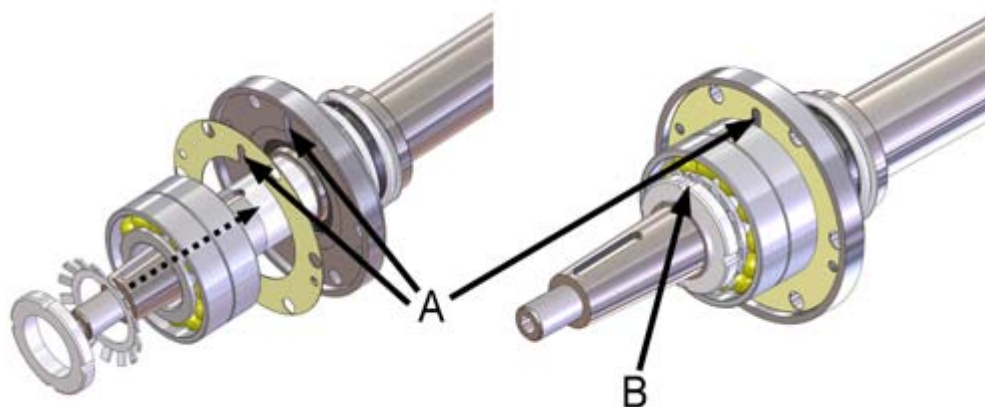
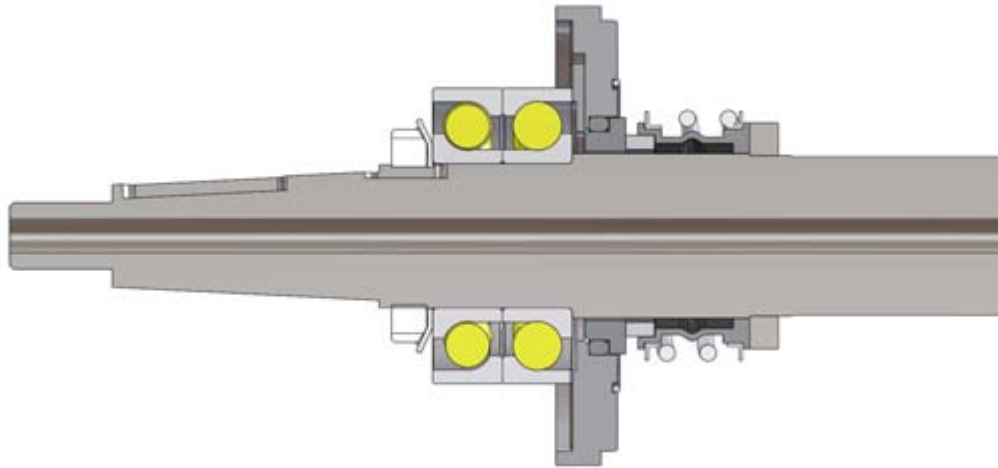

Figure 16. Pushing the bearings onto the shaft
Figure 17. Bearings (cross-section)
3. Place the paper seal against the bearing housing spacer. Make sure that the screw holes and oil duct are positioned correctly (figure 16, point A). Push the bearing pair into the shaft. Please note that the bearings must be installed in the correct way. See figure 17.
Tighten the nut by first tightening it against the bearings by hand and then use a spinner nut wrench to tighten it enough to make one of the safety plate wedges connect with the groove in the nut. Finish by turning the safety plate wedge into the shaft nut groove (figure 16, point B).